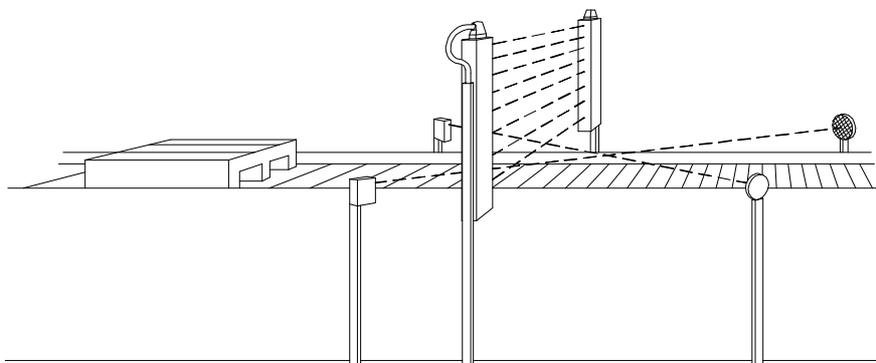

Figure 13
- ☞ assemble the light barrier so that the output connectors are on the part opposite the muting sensors (fig. 13).